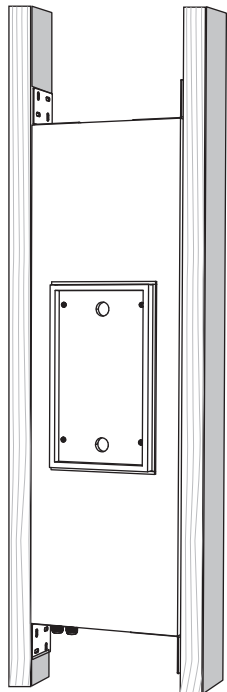

Fig. 2 Install the Back Can onto the Brackets
4. With the help of an assistant, carefully lift the back can between the brackets (Fig. 2), with the cable entry at the bottom.